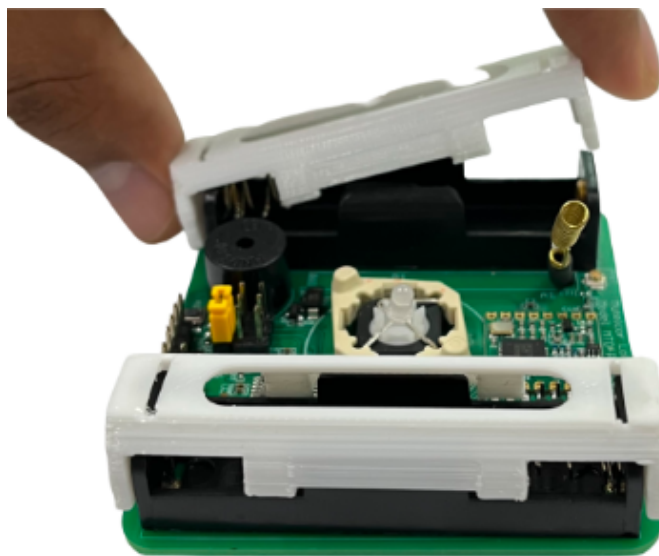

Fig.6.1
3. To insert the batteries, **lift up two white battery caps** from battery holders of PCB, as shown in **Fig. 6.1**